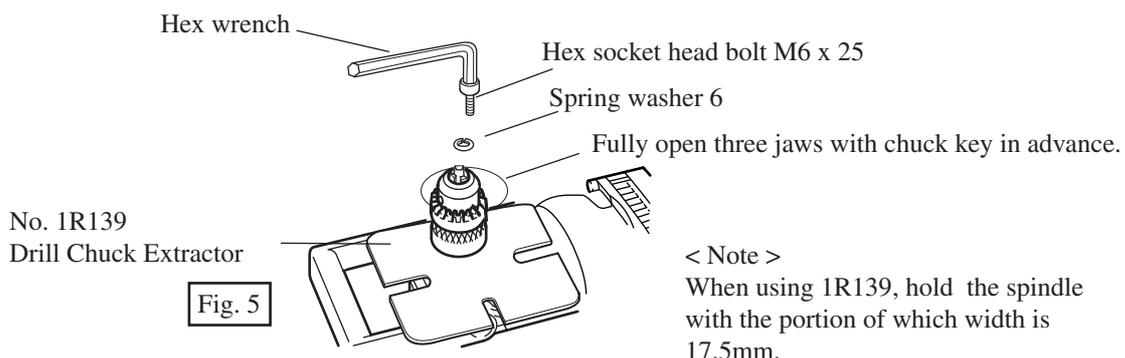

Fig. 5
(5) If you remove drill chuck S13 from spindle, before removing hex nut M16 and spring washer 16 from spindle; Hold spindle with No. 1R139 " Drill Chuck Extractor ". Open three jaws of drill chuck to the full. And then, take off hex socket head bolt M6 x 25 by loosening with hex wrench, from drill chuck. So, drill chuck and spring washer 6 can be separated from spindle. See Fig. 5.